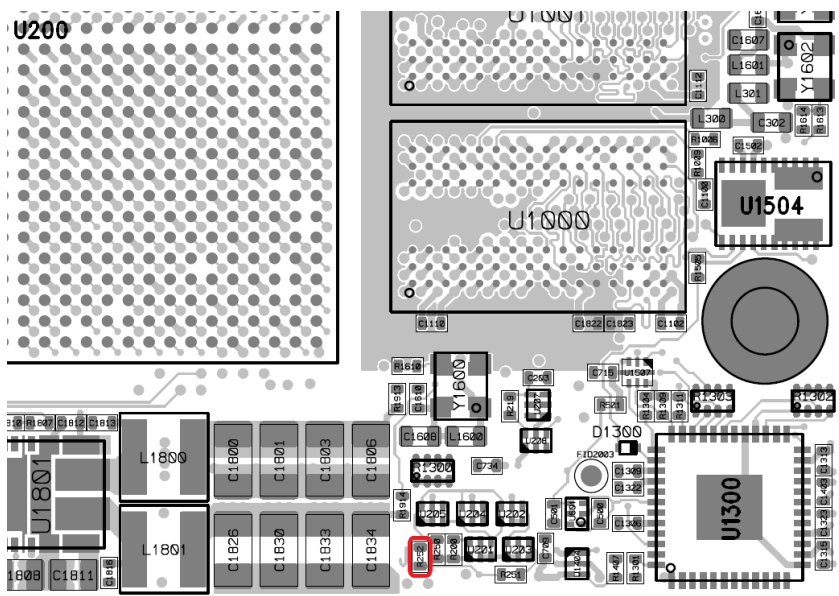

Figure 14: JTAG Boot Mode Resistor - Assembly Drawing Top View (lower right part) for Revision 2 Modules
- Short-circuit R252 (see Figure 14) while powering-up the module (in order to sample the MPSoC boot selection pins correctly for JTAG boot mode)